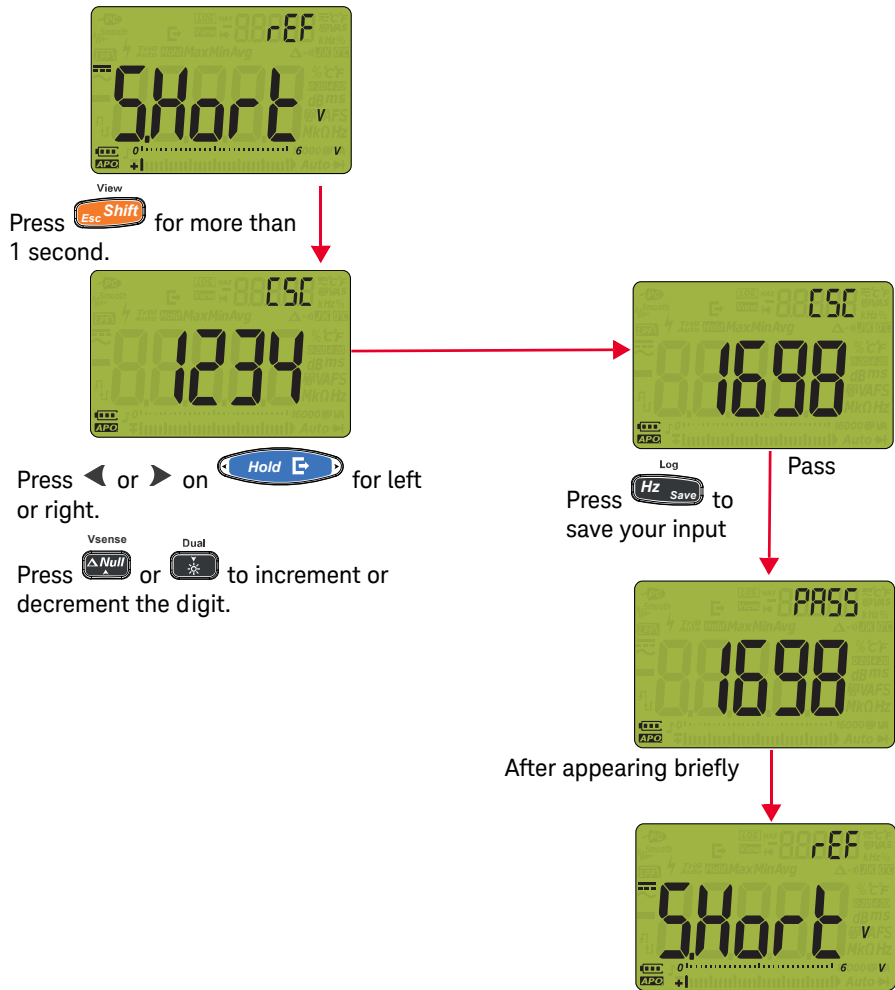

Figure 1-6 Multimeter display when changing the calibration security code
- 4 Record down your new calibration security code, and store it in a safe location. See Figure 1-6 for the multimeter display.